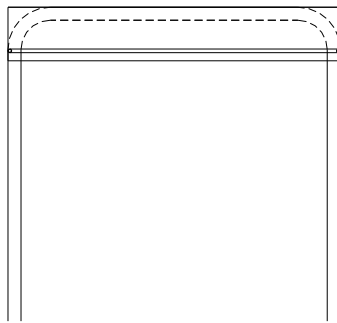

Figure 1
1. Set the end cap on the nose of the trailer. As shown in figure 1.